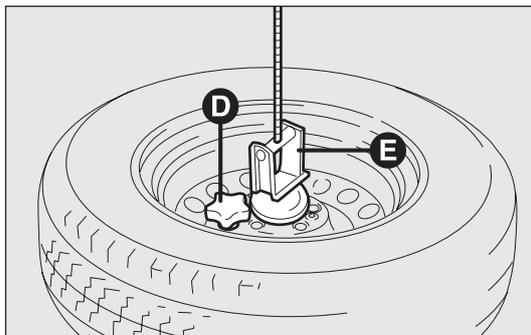

fig. 164
- ❑ undo the retaining knob D-fig. 164 and release the wheel releasing the support E.
- take the removed wheel, re-attach to the mount E-fig. 164 and tighten the knob D;